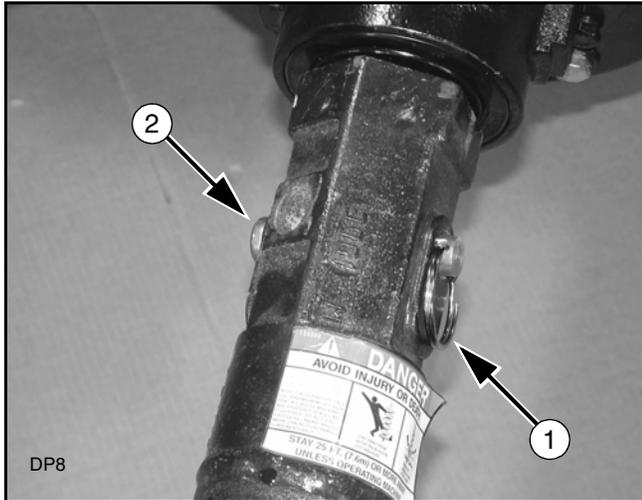

Figure 10. Clevis Pin and Circle Cotter Location
1. Remove the circle cotter (1) from the clevis pin as shown in Figure 10.
2. Remove the clevis pin (2).